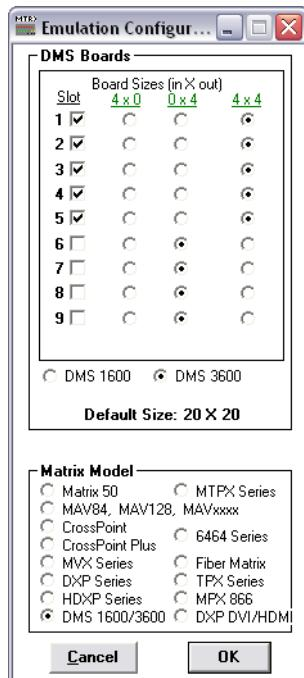

Figure 52. Emulation Mode Configuration
5. Select **DMS** as the Matrix Model (see figure 52) and either **DMS 1600 / 3600** or **DMS 2000 / 3200** as the Default Size. Check the boards that are installed; and select the type, input/output (**4x4**), input only (**4x0**), or output only (**0x4**), for each board. Click **OK**.